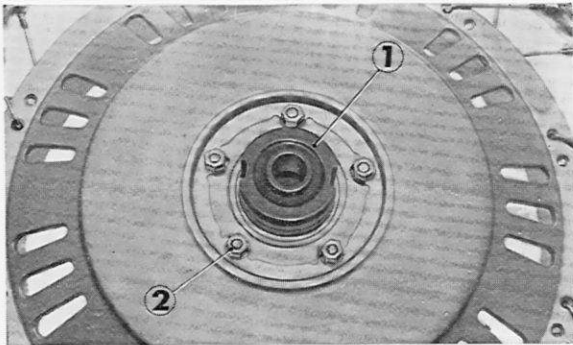

Fig. 4-19 ① Final driven shaft
5. Remove five 6mm nuts and the 50mm thrust washer A, and the final driven shaft can be disassembled together. (Fig. 4-19)